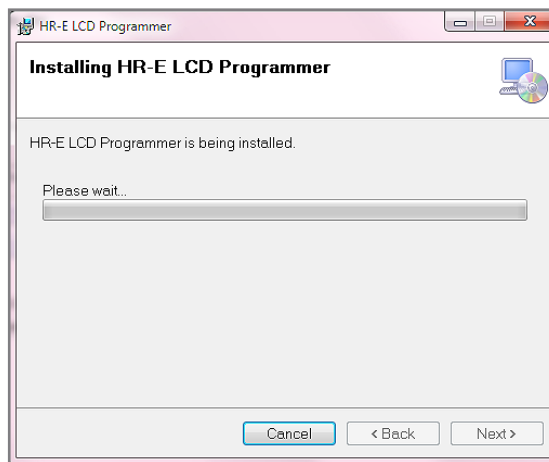
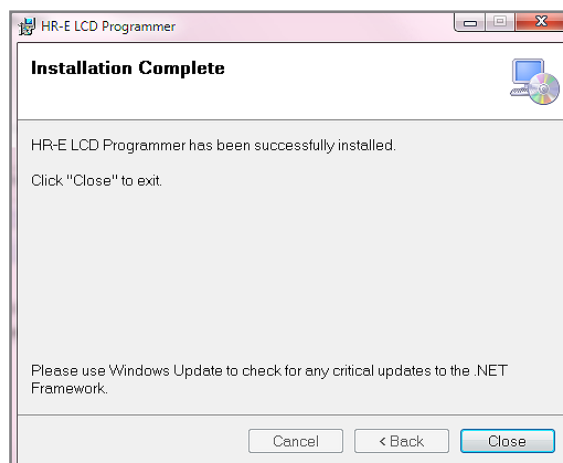

Figure 35: Progress bar shows installation in progress
Figure 36: Installation complete
4. Click **Next** to start installation. A progress bar displays briefly (Figure 35). Then the *Installation Complete* screen displays (Figure 36).